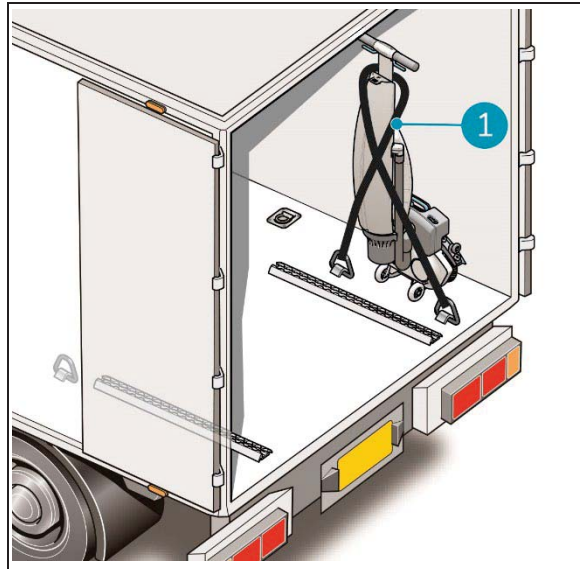

Figure 7
5. Secure the i-mop® using a tension belt or another appropriate restraint (Figure 7, pos 1).